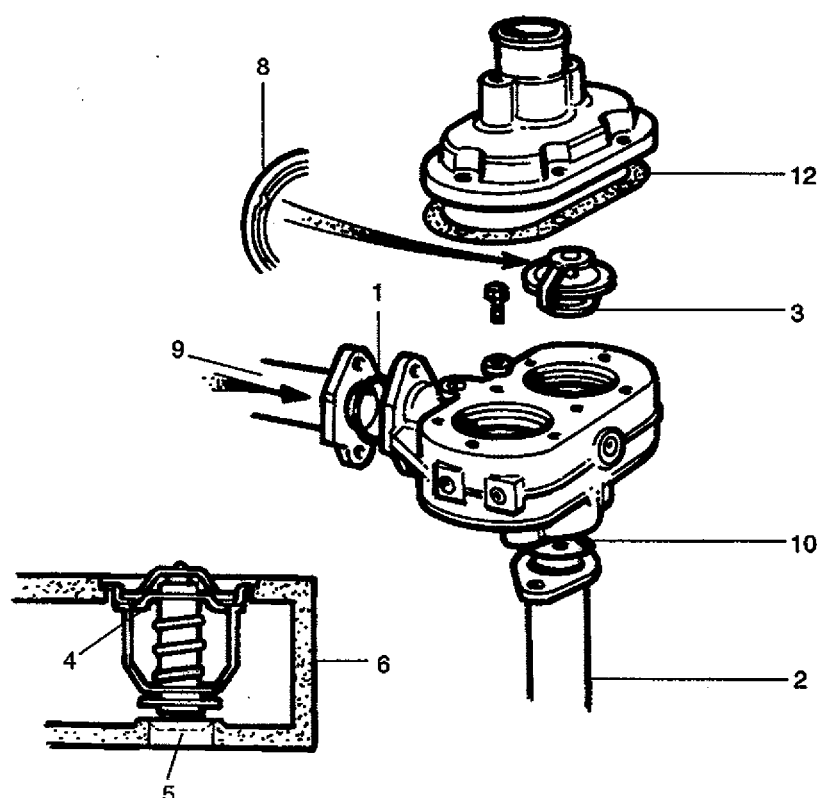

Fig. 1H
At optimum working temperature, the lower disc (5) is in full contact with its seat, allowing the flow of coolant past the fully open upper disc (4) through the outlet port (7) to the heat exchanger or radiator (see **Fig. 1H**).